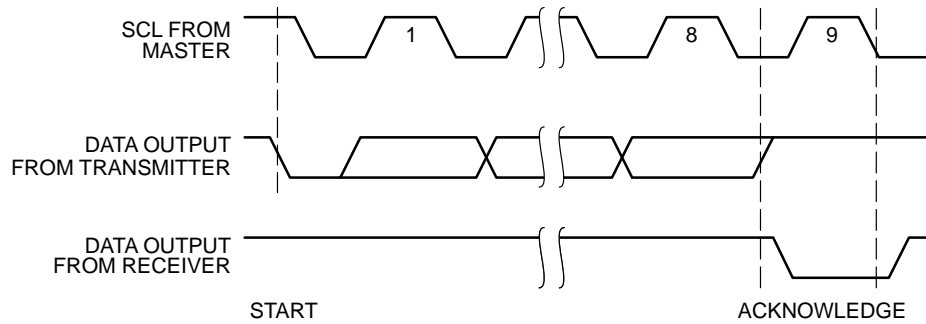
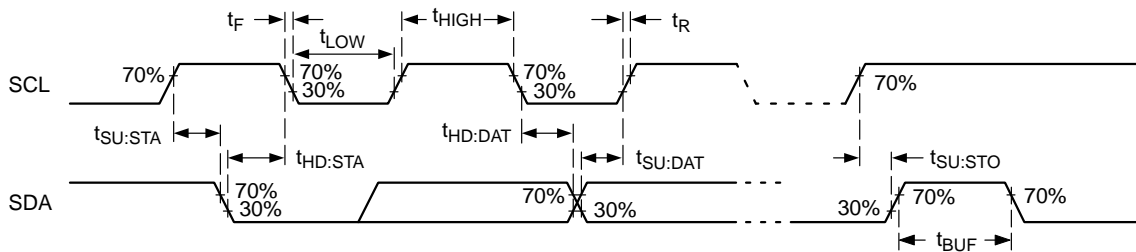

Figure 22. Acknowledge Timing
Figure 23. Bus Timing
6. Timing reference points are set at 30%, respectively 70% of V_{CC} , as illustrated in Figure 23. Bus loading must be such as to allow meeting the V_{IL} , V_{OL} as well as the various timing limits.
A matching Slave address is acknowledged (ACK) by the Slave by pulling down the SDA line during the 9th clock cycle (Figure 22). After that, the Slave will acknowledge all data bytes sent to the bus by the Master. When the Slave is the transmitter, the Master will in turn acknowledge data bytes in the 9th clock cycle. The Slave will stop transmitting after the Master does not respond with acknowledge (NoACK) and then issues a STOP. Bus timing is illustrated in Figure 23.